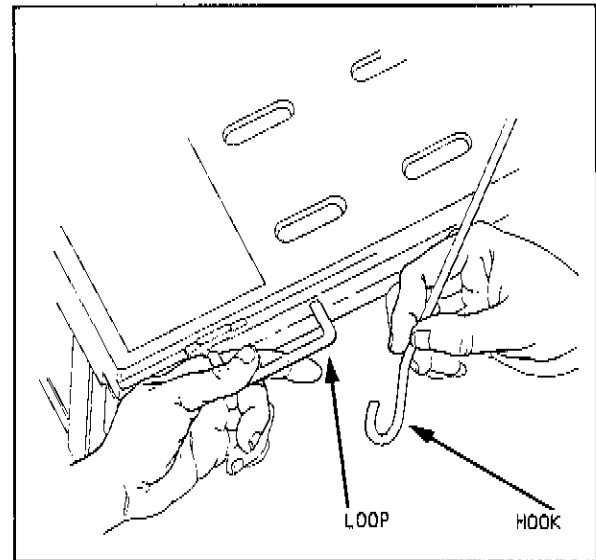

Figure S-30b Version Number 2
- * On version number 2, the Gum & Mint assembly is held in the loading position by a hook and a loop. One end of the hook is attached to the right side of the door. The loop is mounted on the right side of the Gum & Mint assembly. Use the loop as a handle and raise the Gum & Mint magazine with your left hand. Use your right hand to move the free end of the hook so it catches the loop. This will hold the magazine while you are loading it with product. See Figure S-30b below.